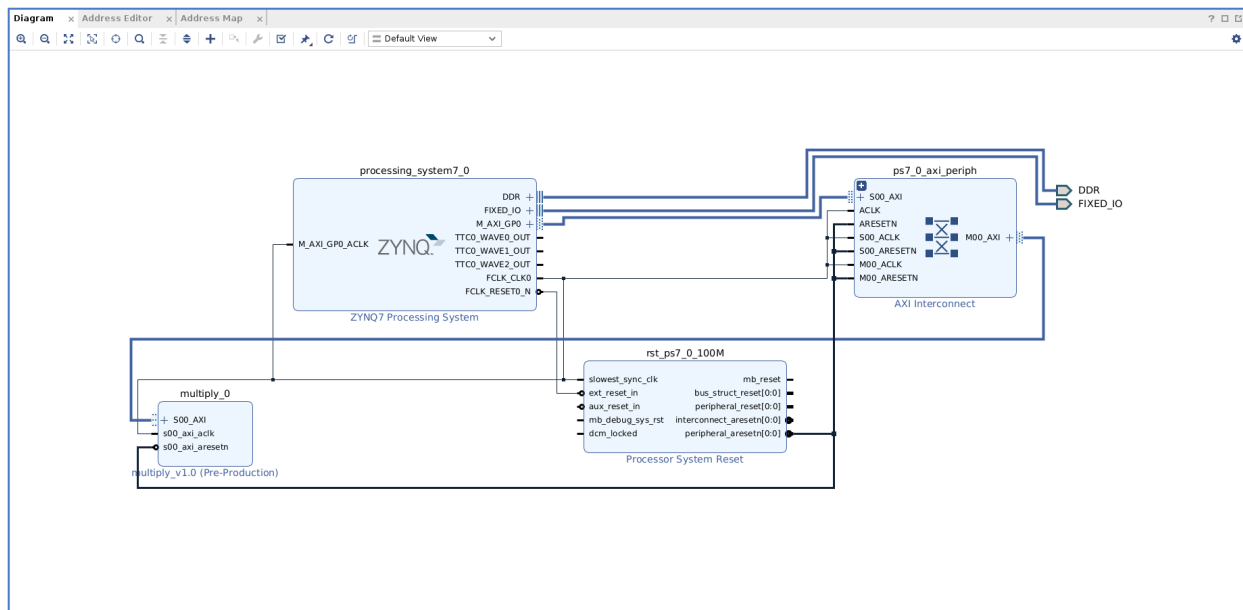

Figure 3: Base System Design
- (h) Run connection automation as shown in Lab 3. Now the base system should look like the one as in Figure 3